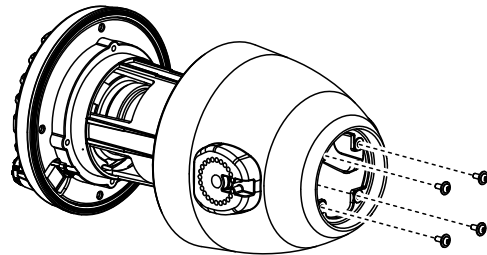

Figure 3
- 1. Remove the **MLS-310** from the bracket by removing the two Mounting Bracket Knobs, then remove the rear case of the **MLS-310** from the main body by removing the four screws (Figure 3.).